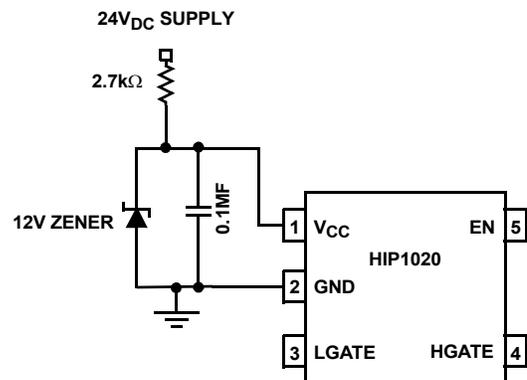

FIGURE 1. ZENER POWER SUPPLY
**HIP1020 Power Supply (Figure 1)**
We now have the power supply for the HIP1020, let us start into the circuit design for the +5V supply controller. Borrowing from the data sheet FN4601, page 1, figure 1, V5 in and V5 out, turning on the +5V MOSFET is straight forward but it is good to review a few basic power MOSFET rules of thumb.